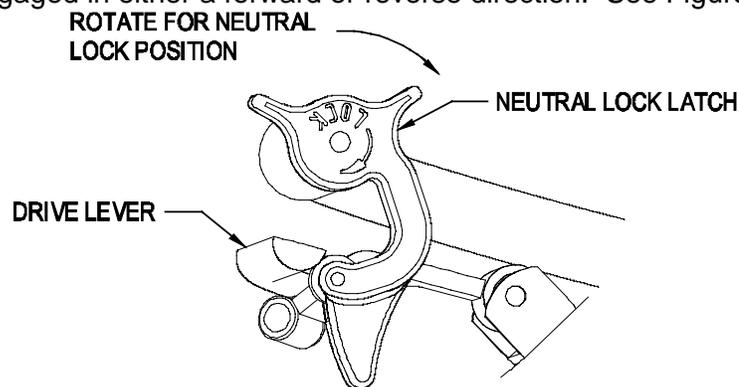

FIGURE 3
4.1.2 Drive Levers: Located on each side of the upper handle assembly directly below the handle grips (See Figure 3). These levers individually control the speed and direction of each drive wheel. When the speed control lever is moved out of the neutral position and the neutral lock latches are moved into the drive position, as shown in Figure 3, and the drive levers are released, the drive wheels are engaged in the forward direction.
4.1.3 Neutral Lock Latches: Located at the end of the handles. These latches allow the operator to lock the drive levers in “neutral” where neither the drive wheels are engaged in either a forward or reverse direction. See Figure 3.